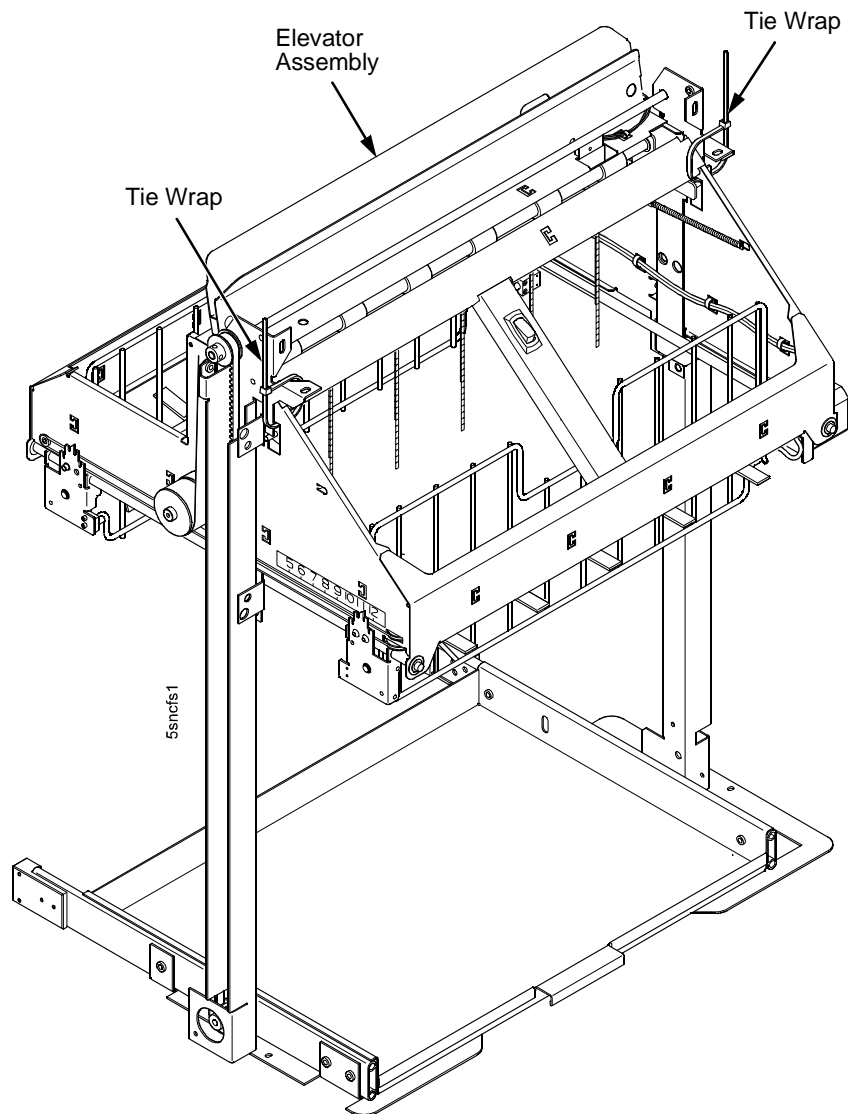

Figure 86. Securing the Elevator Assembly
2. Raise the elevator assembly to its highest position and secure it to the vertical rails using tie wraps or string. Do not over-tighten the tie wraps or string; tighten them just enough to hold the elevator up. (Figure 86.)